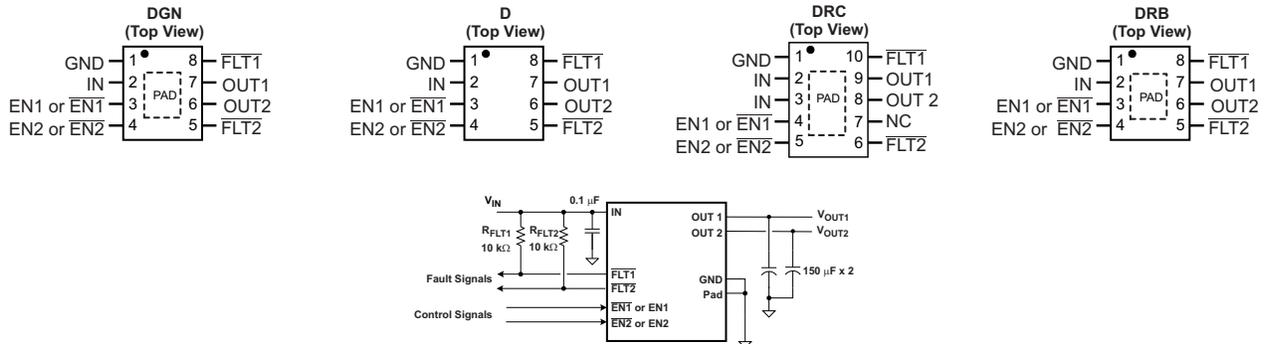

Figure 1. TYPICAL APPLICATION
- (1) Absolute maximum ratings apply over recommended junction temperature range.
- (2) All voltages are with respect to GND unless otherwise noted.
- (3) See INPUT AND OUTPUT CAPACITANCE section.
- (4) V_{OUT} was surged on a PCB with input and output bypassing per Figure 1 (except input capacitor was 22 μF) with no device failure.